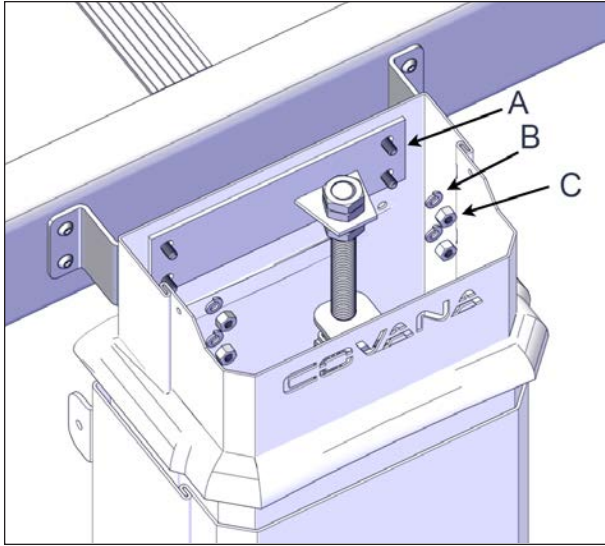

FIGURE 85: SLEEVE INSTALLATION
15. Slide the sleeves over the top of the jacks and fasten them using the 1/4" x 3/4" carriage bolts at the top with 1/4" lock washers and 1/4" nuts. Use a 7/16" (11 mm) socket and spanner, see Figure 85.